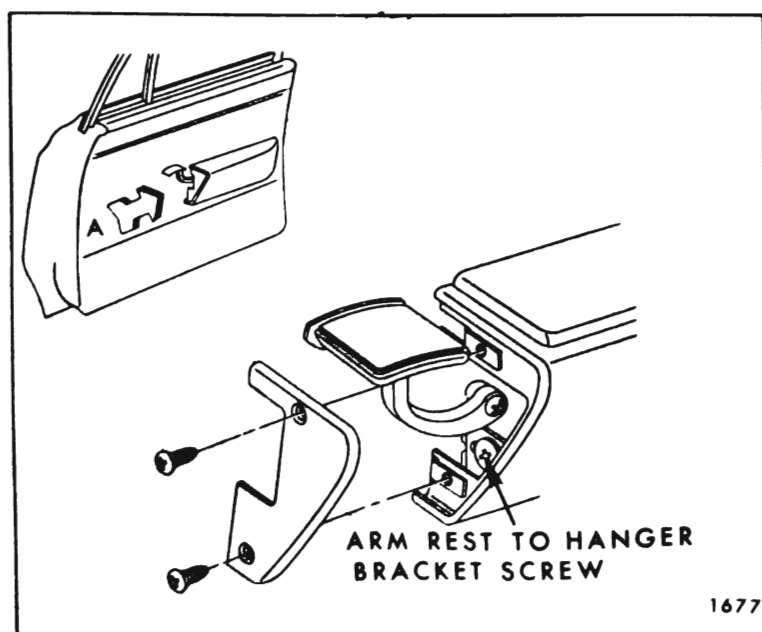

Fig. 7-13—Front Door Arm Rest Base Cap - 68200 Series
5. Remove all exposed screws present under switch plate cover and/or directly under remote control spindle. These screws secure the trim pad to the door hanger plate. (Figs. 7-13 and 7-14 show typical hanger plate attachments.)